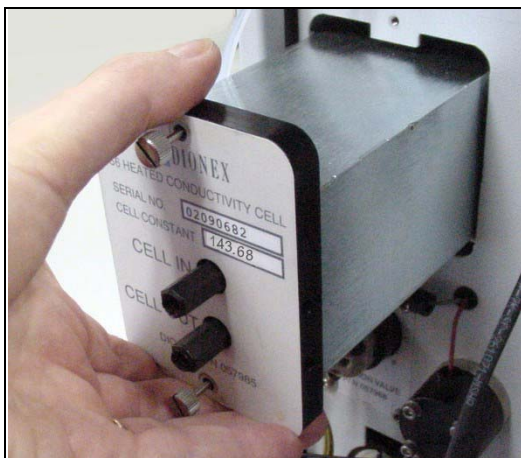

Figure 5-10. Removing the Cell Assembly
4. Continue pulling on the cover until the attached cell assembly slides out the front of the ICS-1000 (see Figure 5-10).